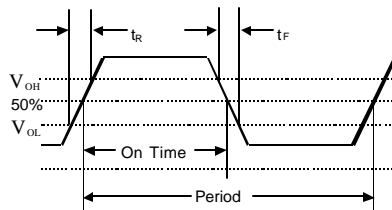
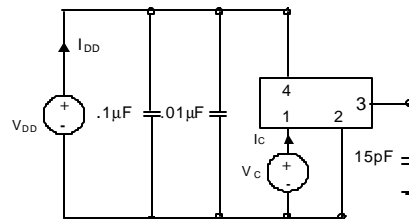

Figure 3. Output Waveform
Figure 4. Typical Output Test Conditions (25±5°C)
2. Figure 3 defines these parameters. Figure 4 illustrates the operating conditions under which these parameters are tested and specified. For  $f_O > 90$  MHz, rise and fall time is measured 20 to 80%.